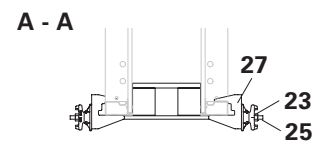

Fig. B6.03a
- Top Tie Bracket-2 AH with Tie Rod (25) and Wingnut Pivot Plate (23), see Fig. B6.03a.